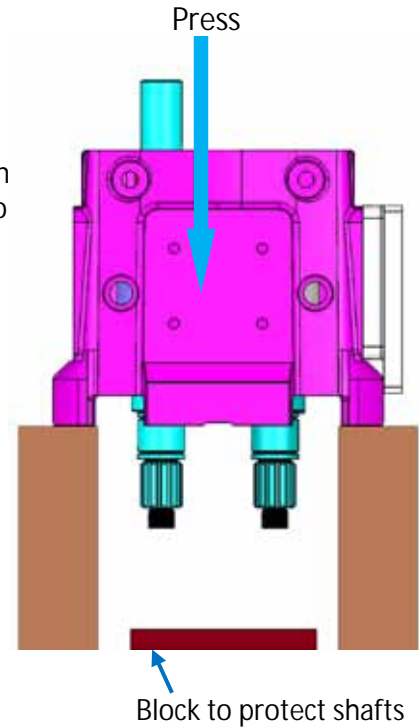

Figure 52 – Pressing Shafts from Gearbox
10. In order to prevent damage to your shafts, wrap the shaft splines and threads with tape. Place the gearbox on an arbor face down on wooden blocks. Protect the shafts when they fall from the gearbox with wood or plastic blocks placed beneath them. Then press the shafts out of the gearbox, Figure 52.